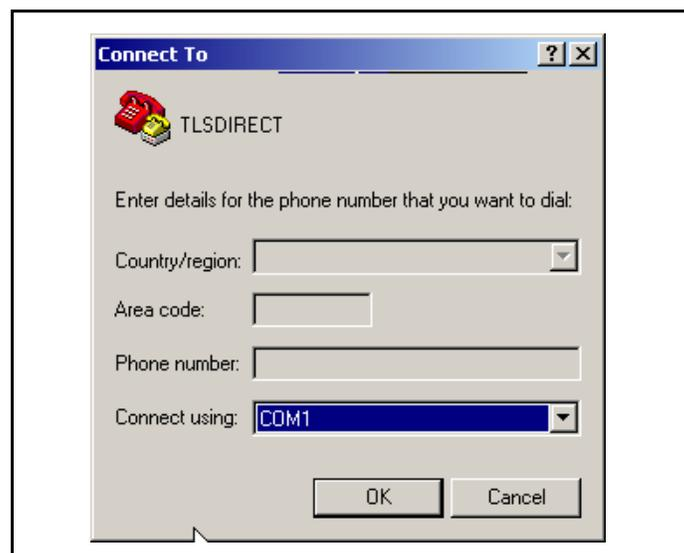

Figure 32. Connect To window
4. When the Connect To window appears (Figure 32), depending on your connection method, select either COM1 (If RS-232 port on laptop), USB-Serial Controller (if using USB port on laptop), or Serial I/O PC Card (if using PCMCIA port on laptop) in the 'Connect using' drop down box, then click OK button.